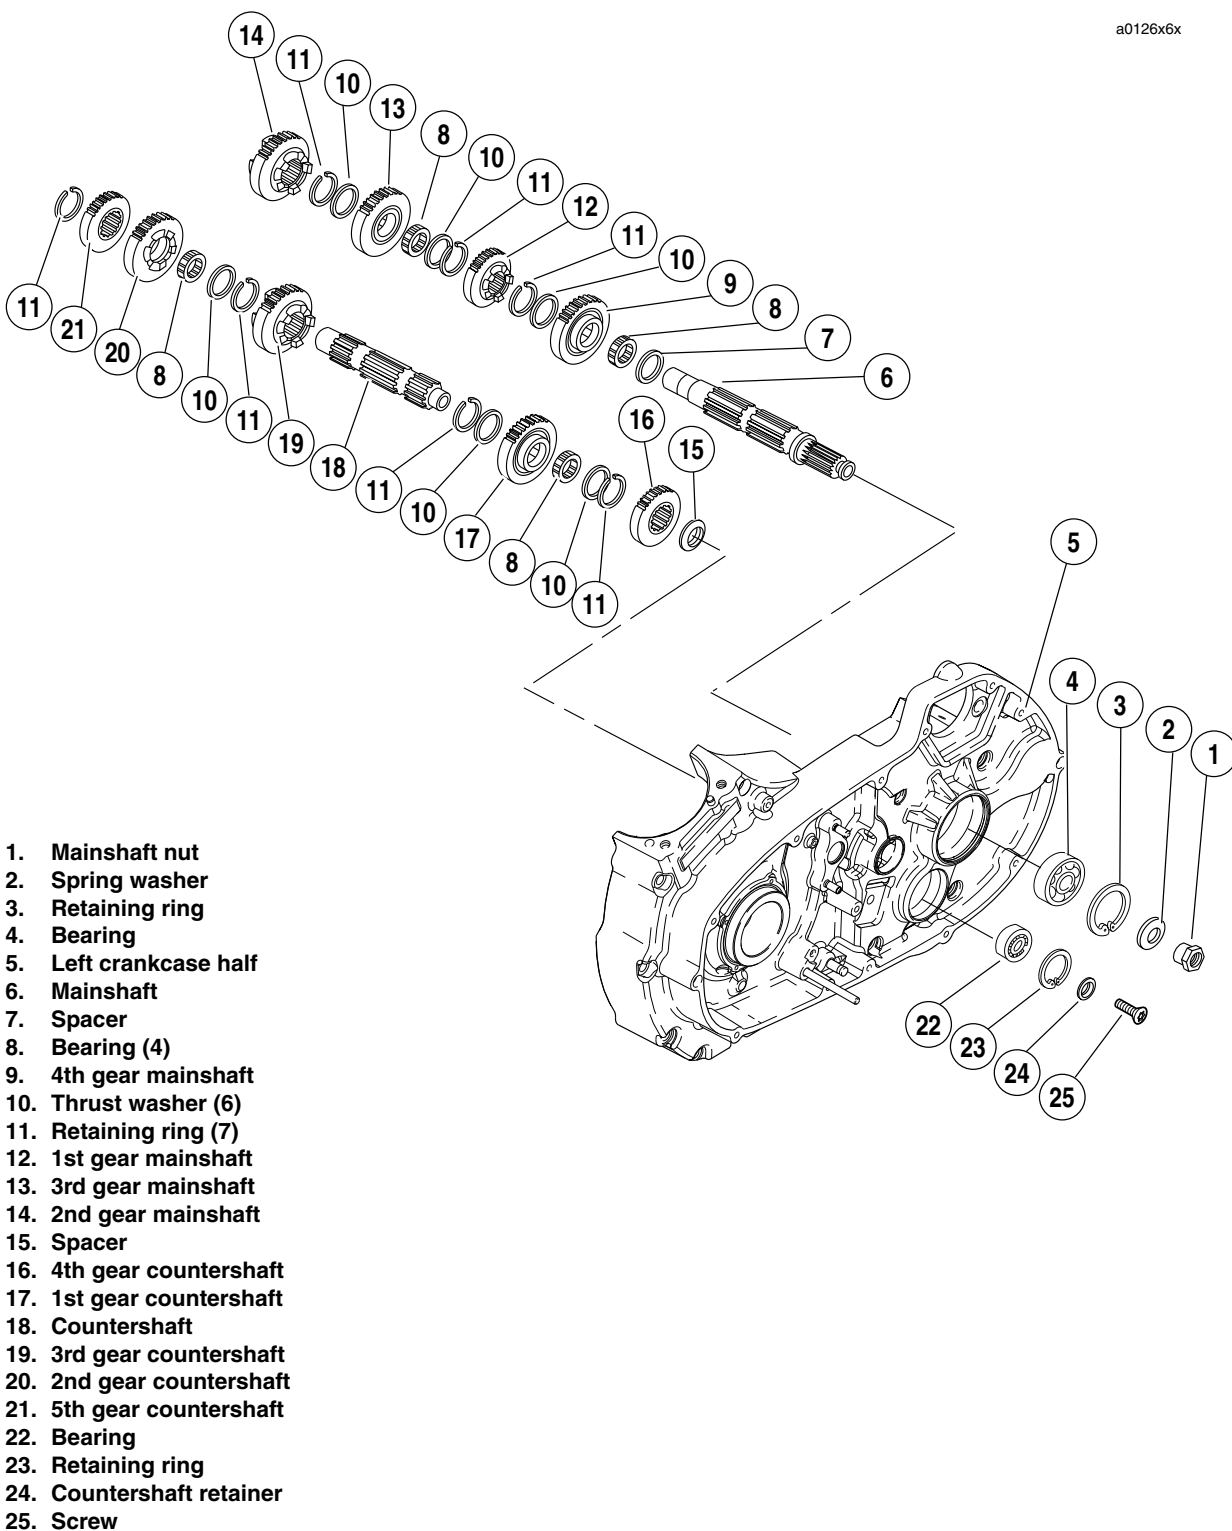

Figure 6-33. Transmission Assembly Left Crankcase Half
1. See Figure 6-33. Remove mainshaft 2nd (14) gear from mainshaft (6).
2. At mainshaft, between mainshaft 1st gear (12) and mainshaft 3rd gear (13), expand retaining ring (11) and move next to mainshaft 1st gear (12) along with thrust washer (10). Move mainshaft 3rd gear (13) as far as possible toward mainshaft 1st gear (12). Expand retaining ring (11) at opposite side of mainshaft 3rd gear (13) and slide off end of shaft. Slide thrust washer (10) off end of mainshaft.
3. Remove mainshaft 3rd gear (13) and its split bearing (8).
4. Slide thrust washer (10) off end of mainshaft. Expand retaining ring (11), which is next to mainshaft 1st gear (12), and slide off end of shaft.
5. Remove mainshaft 1st gear (12) off mainshaft.
6. Expand retaining ring (11) and slide off end of shaft. Slide thrust washer (10) off end of mainshaft.
7. Remove mainshaft 4th gear (9).
8. Remove split bearing (8) and spacer (7).
1. See Figure 6-33. Using RETAINING RING PLIERS (Part No. J-5586) remove and discard retaining ring (11) next to countershaft 5th gear (21). Slide countershaft 5th (21), and countershaft 2nd (20) off end of countershaft (18).
2. Remove split bearing (8) that was under countershaft 2nd gear (20) and thrust washer (10), including retaining ring (11) on the countershaft (6). Slide countershaft 3rd (19) gear off free end of shaft (18).
3. Remove beveled washer (spacer) (15) and countershaft 4th gear (16).
4. Expand retaining ring (11) located next to countershaft 1st gear (17). Remove retaining ring (11) and thrust washer (10). Slide countershaft 1st gear (17) off end of shaft. Remove split bearing (8).
5. Remove thrust washer (10). Expand remaining retaining ring (11) and slide off countershaft (18).